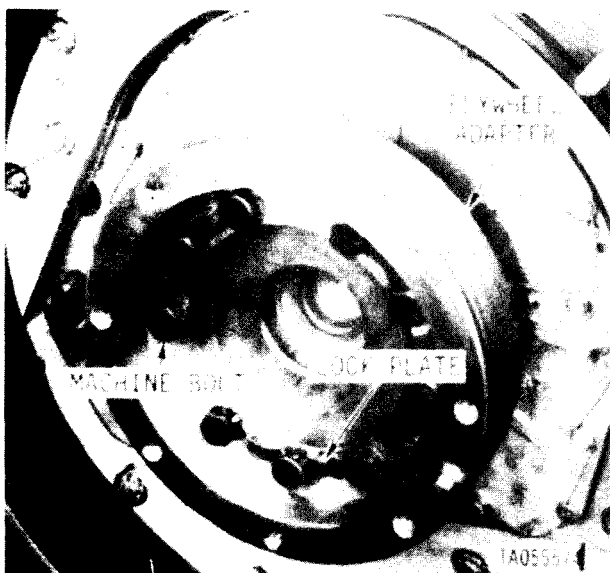

Figure 3-118.3 Removing flywheel adapter, model AVDS-1790-2DR engine..
c.3. Install three 9/16 x 1-3/4 in. bolts in puller screw holes (fig. 3-118.3). Alternately tighten bolts and pull flywheel adapter from crankshaft dowel pins. Remove bolts from dapter.